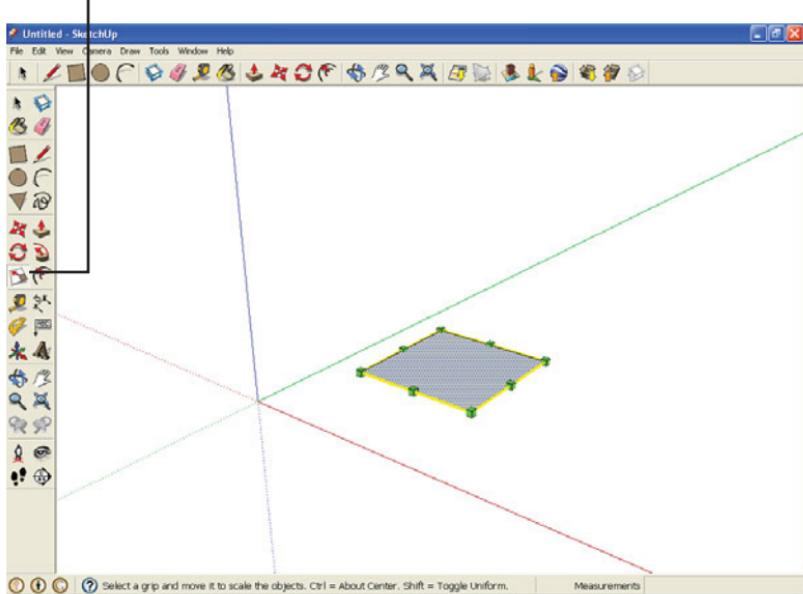

FIGURE 8.10 The Scale tool and sizing handles added to a rectangle.
6. Click the horizontal rectangle. The rectangle has sizing handles added to it, as you can see in Figure 8.10.